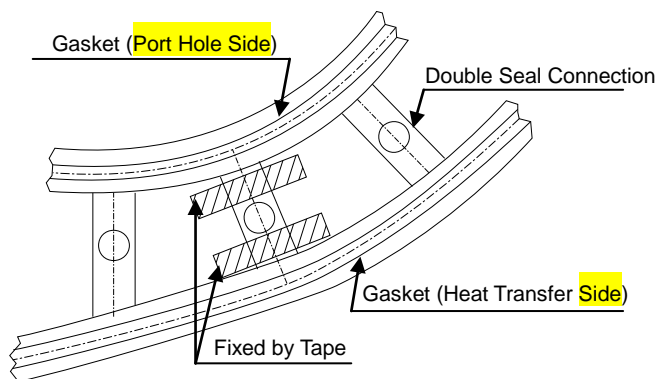

Fig. 8 Procedures for fixing by Tape
- 2) After cutting the protrusion of the port hole for UX-30A, UX-40A or SX-40A, Peel back one side only of Sekisui Double-Faced Tape No. 575. Fix double seal connection to the plate by the tape. Refer to below Fig. 8.